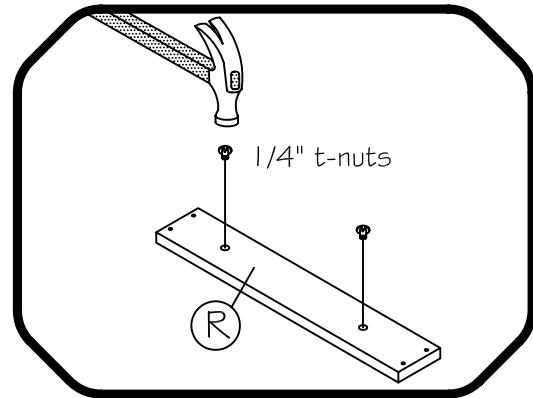

Fig. 6
Step 1: Gather (1) Cargo Net Board 'R' & (1) Cargo Net.
Step 2: Hammer 1/4" t-nuts into the (2) 5/16" diameter holes on Cargo Net Board 'R'. (see fig. 6)
Step 3: Attach Cargo Net Board 'R' flush with the bottom of the floor on the side opposite Rockwall with (4) 2 1/4" Deck Screws. (t-nuts on 'R' should go to inside of fort)